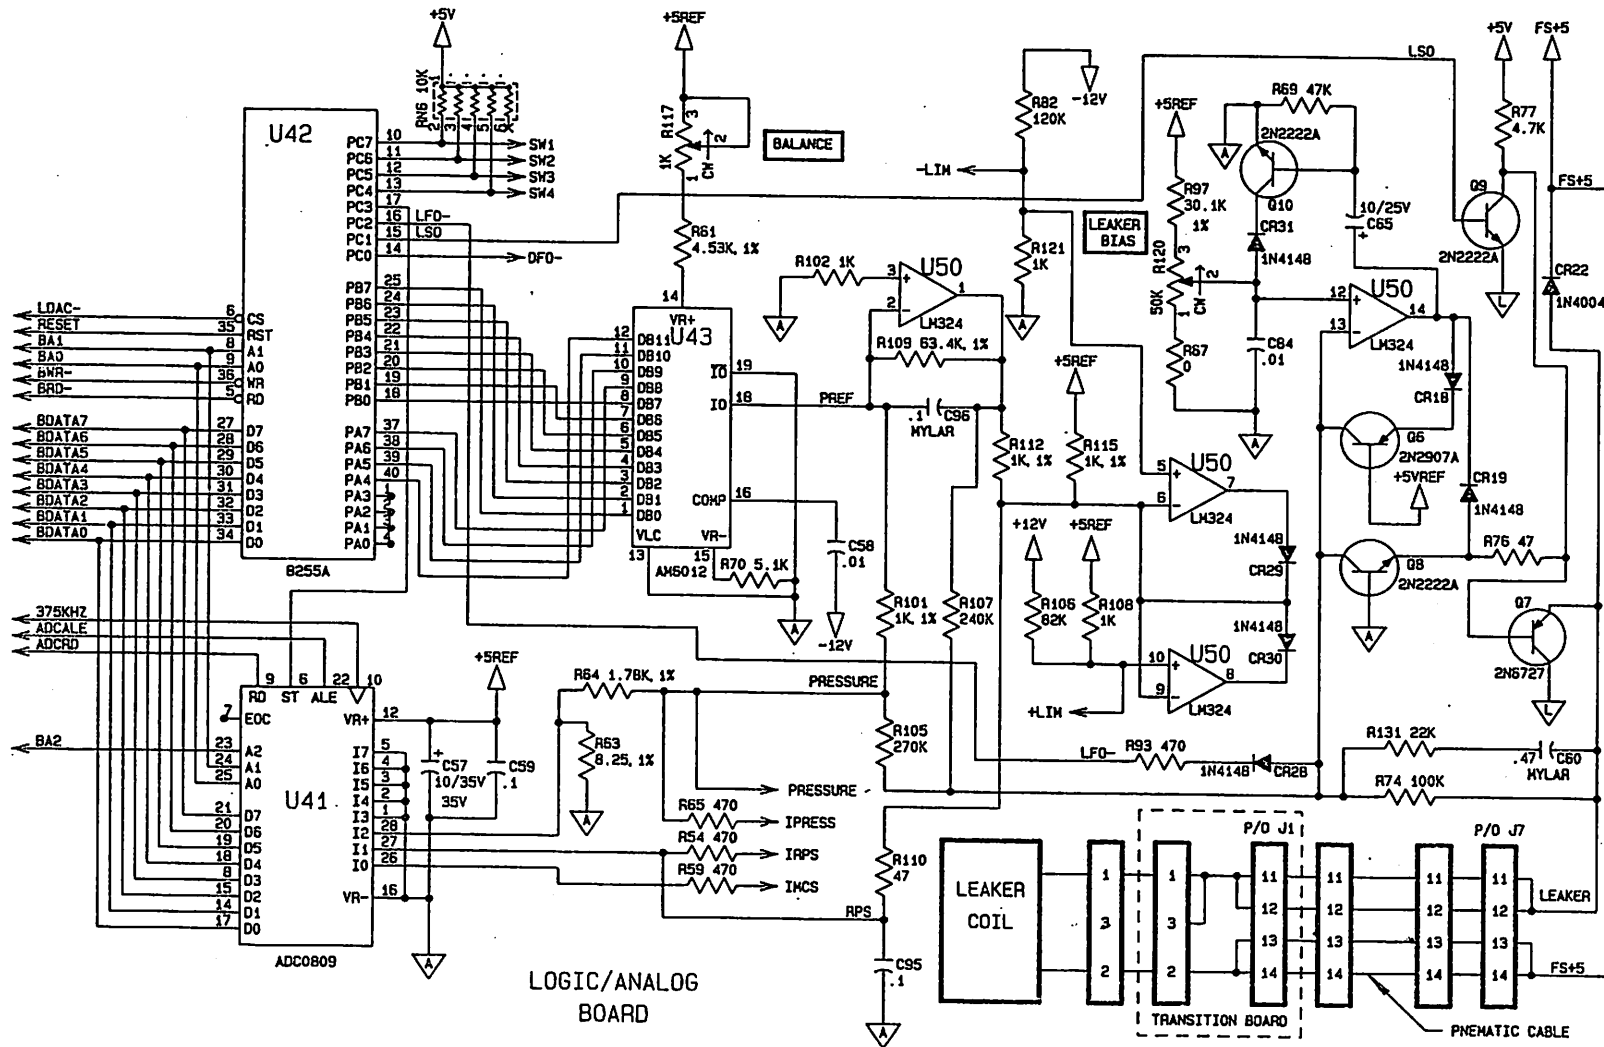

Figure 3-13. Data Acquisition and Deflation Control Loop
3.5.4 Deflation Control (figure 3-13)
d. Leaker Driver (Figure 3-13)